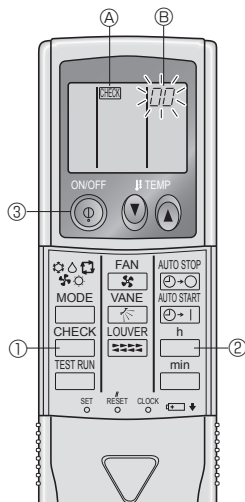

Fig. 7-6
7.3.2. Wireless remote controller (Fig. 7-6)